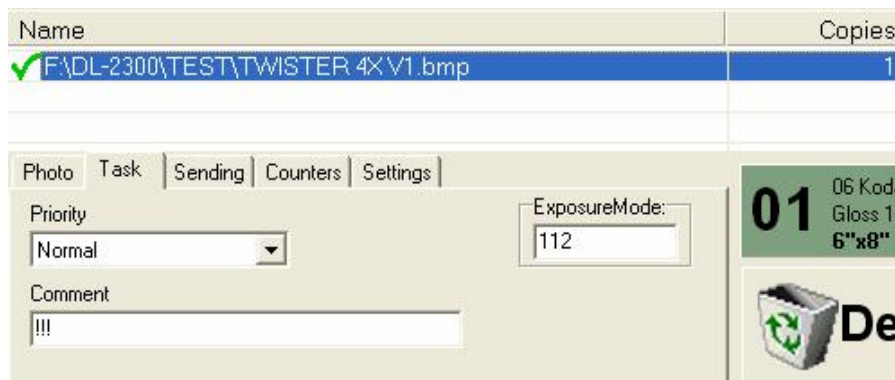

Fig 2.5.4
- On **Task** tab set **Comment** to !!!, and **ExposureMode** to 112 (Fig 2.5.4).